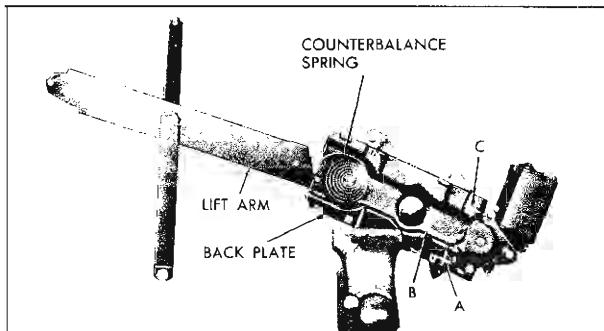

Fig. 14-23 Back Door Electric Window Regulator
2. Place regulator and motor assembly in a vise (Fig. 14-23). Drill a $\frac{1}{4}$ " hole through back plate and sector at location indicated at either "A", "B", or "C" (Fig. 14-23) depending on position of lift arm.
4. Remove motor attaching bolts (Fig. 14-23) and remove motor from regulator.